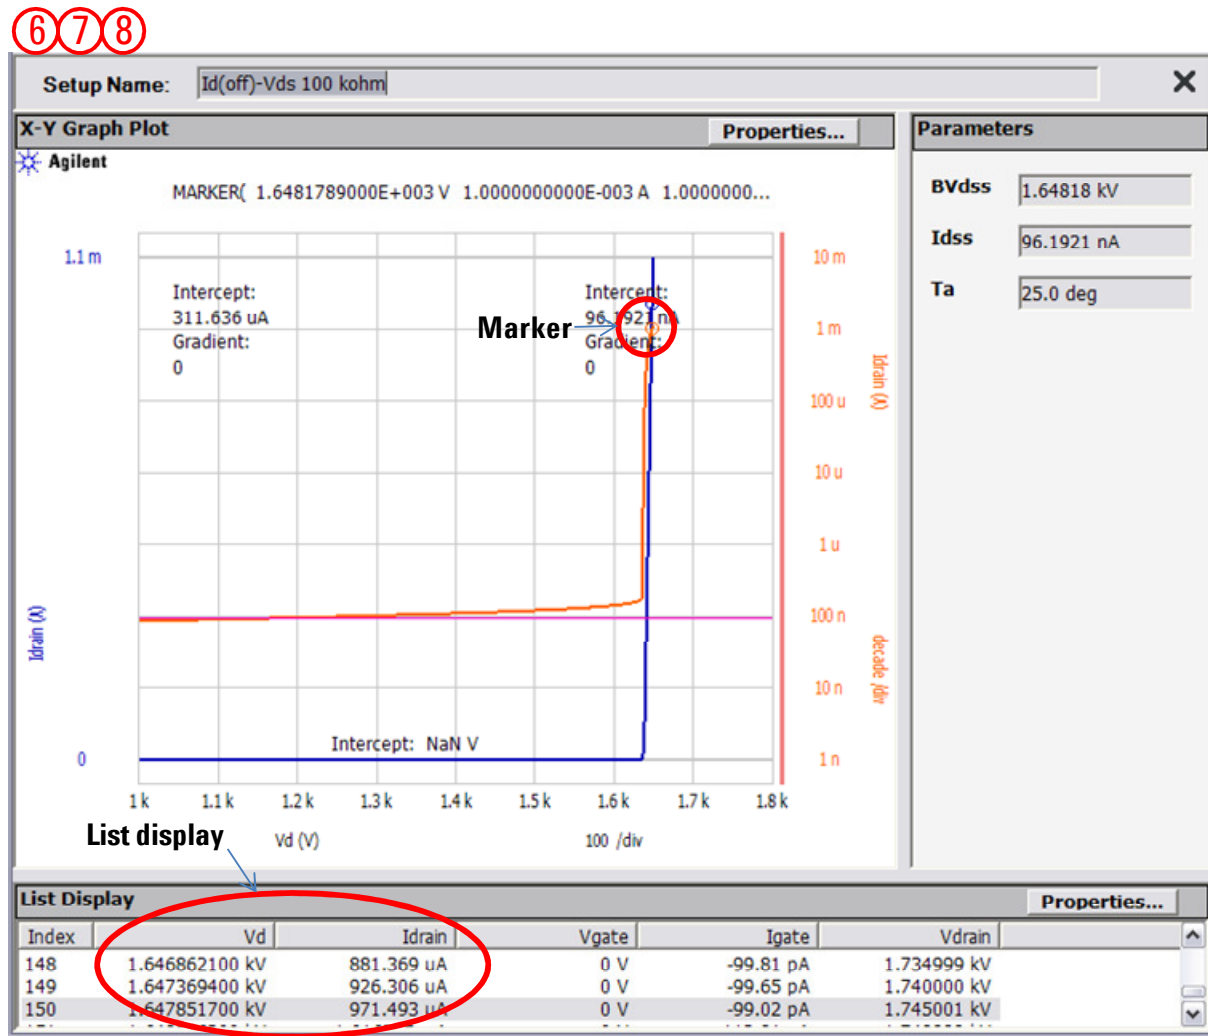

Figure 3-58. Idss and BVdss breakdown test with 100 kΩ.
Step 8. You can see the  $I_d$ - $V_d$ s curve with extracted  $I_{dss}$  and  $BV_{dss}$  in figure 3-58.
Figure 3-58 plots linear drain current  $I_{drain}$  in Y1 axis and log  $I_{drain}$  in Y2 axis versus drain voltage  $V_{drain}$  in X axis. Horizontal line is drawn at  $I_{dss}$  and Marker is automatically located to the  $BV_{gss}$  point using the interpolation method.